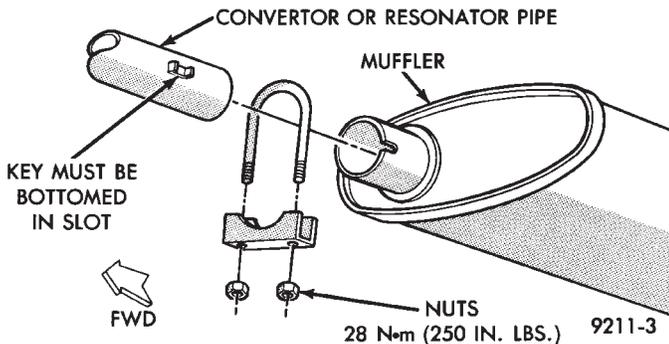

Fig. 4 Exhaust (Converter/Resonator) Pipe to Muffler
(1) Raise vehicle on hoist and apply penetrating oil to clamp bolts and nuts of component being removed.
(2) Remove clamps and supports (Figs. 4, 5, and 6) from exhaust system to permit alignment of parts during assembly.
(3) When removing tailpipe, raise rear of vehicle to relieve body weight from rear springs to provide clearance between pipe and rear axle parts.
(4) Clean ends of pipes or muffler to assure mating of all parts. Discard broken or worn insulators, rusted clamps, supports and attaching parts.